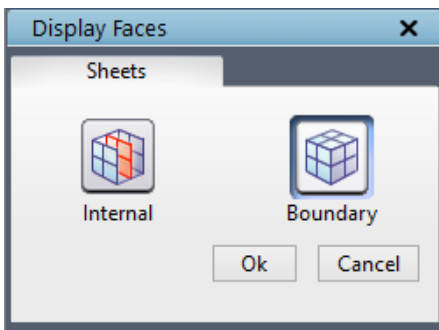

Figure 5.6: Faces dialog box
**Faces**  button is used to create sheet consist of all block faces on all the external grid surfaces. It create grid sheets for all surfaces, displayed in a different colors. Clicking on the Faces button opens Display Faces dialog box as shown in figure 5.6. To create grid sheets on external surface/boundary surfaces, use **Boundary** button, similarly for internal surfaces use **Internal** button. By default, the **Boundary** button is depressed.